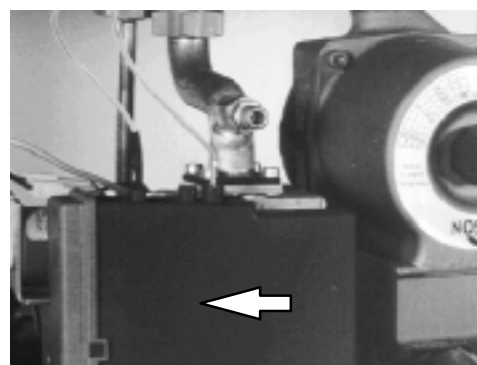

fig. 52
- 4 remove the ignition device by moving it from towards left (fig. 52);